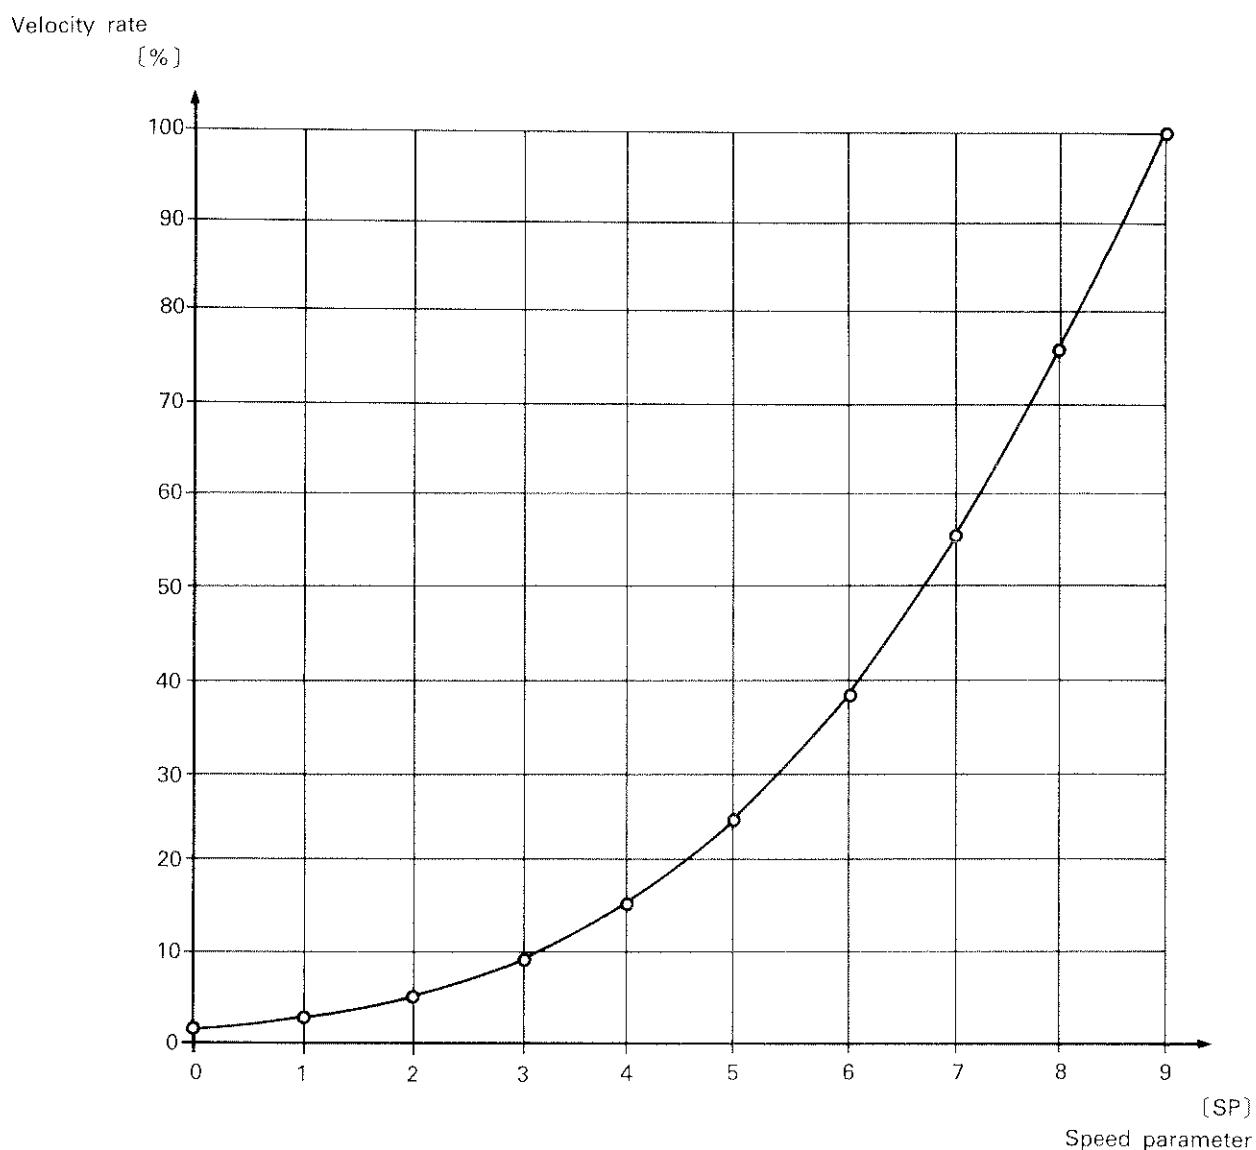

Fig. 5.8.1 Relation between Speed Parameters and Velocities
8.1 Relation between Speed Parameters and Velocities Table 5.8.1 and Fig. 5.8.1 indicate the relationship between the speed parameters of the SP (speed) command and the velocity rates (% with respect to the maximum rotation velocity of each axis).